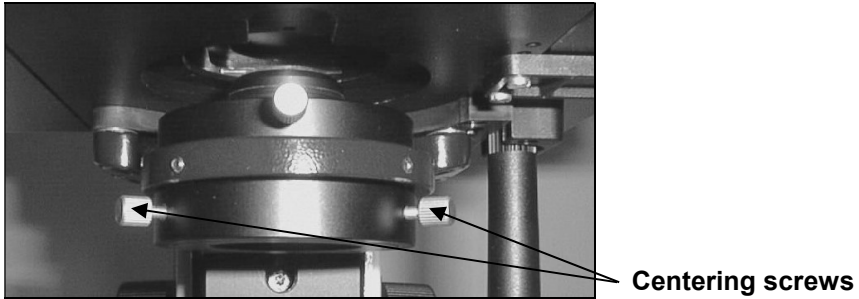

Fig. 46: Condenser holder H 600 LL HP 100 with centering screws.
The following instructions explain how to adjust the darkfield image for the microscope H 600 LL HP 100 which is the dedicated microscope for native-blood investigations according to Enderlein. The microscope is equipped with the condenser-objective combination of Figs. 44 and 45, and with one achromatic objective Achro 10/0.25 for centering the condenser. The condenser is centered via the screws shown in Fig. 46:
- Move the bright spot with the condenser's centering screws to the center of the field of view (Figs. 46 and 47).